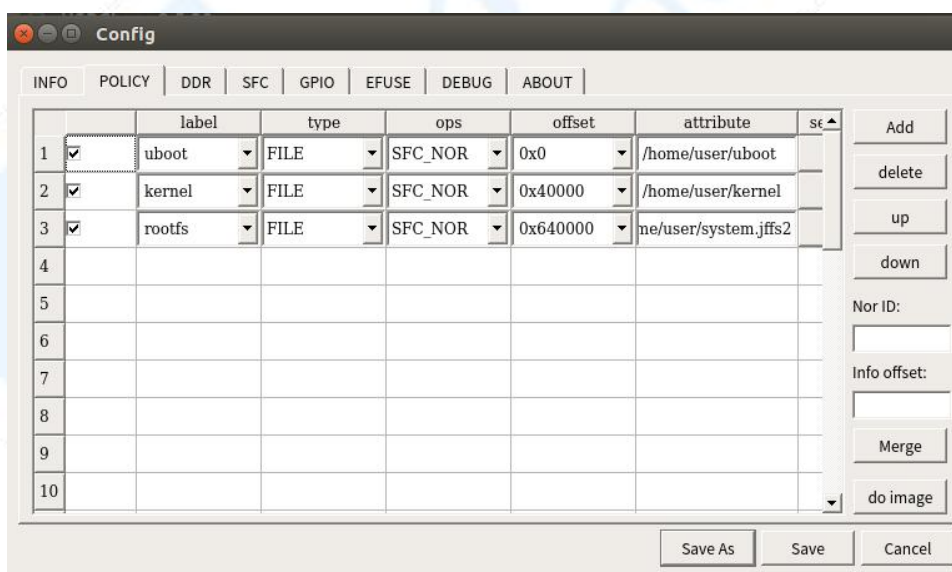

Figure 4-6
2、Configure the image file path, and click POLICY to configure accordingly. Set the corresponding paths of the uboot, kernel and rootfs image files in sequence, and click the corresponding setting to select the file. The configuration can refer to Figure 4-6.